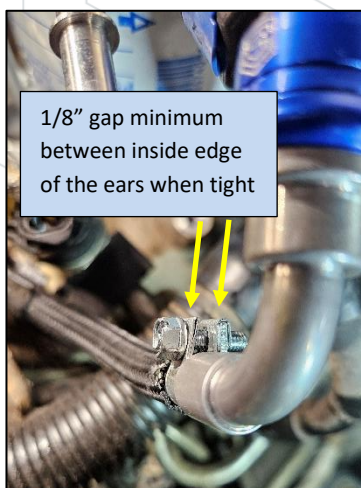

Figure 10: Ears parallel is tight enough
19. Tighten the fuel injection clamp with 7mm, 9/32", or flat screwdriver until the ears are parallel or just past parallel as shown in Figure 10. **DO NOT overtighten this clamp. Very little clamping force is required to seal this joint.** Torque spec is 9 lb-in (1 Nm) but most torque wrenches do not go this low. 1/8" ear gap recommended (Figure 10).